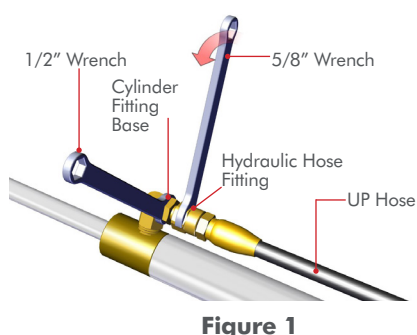

Figure 1
**STEP 1:** Disconnect the **UP Hose** from the **Hydraulic Cylinder Fitting** by holding the **Cylinder Fitting Base** with a **1/2" wrench** and turning the **Hydraulic Hose Fitting** counter-clockwise with a **5/8" wrench**. **FIG 1**